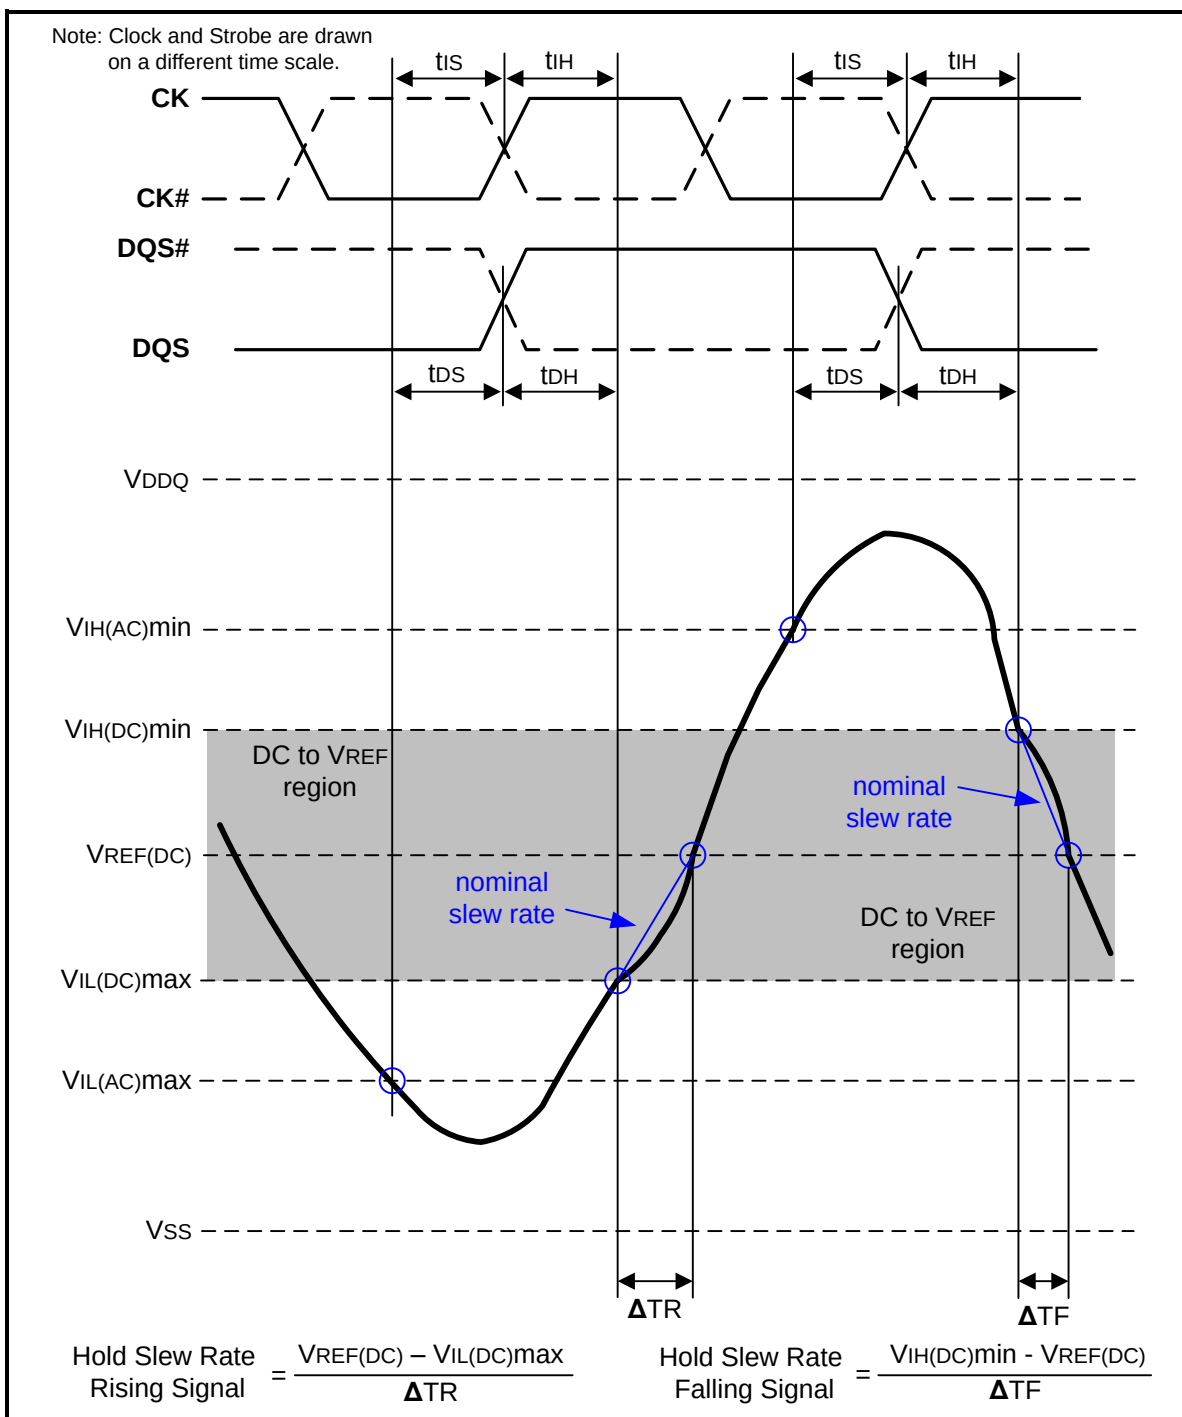
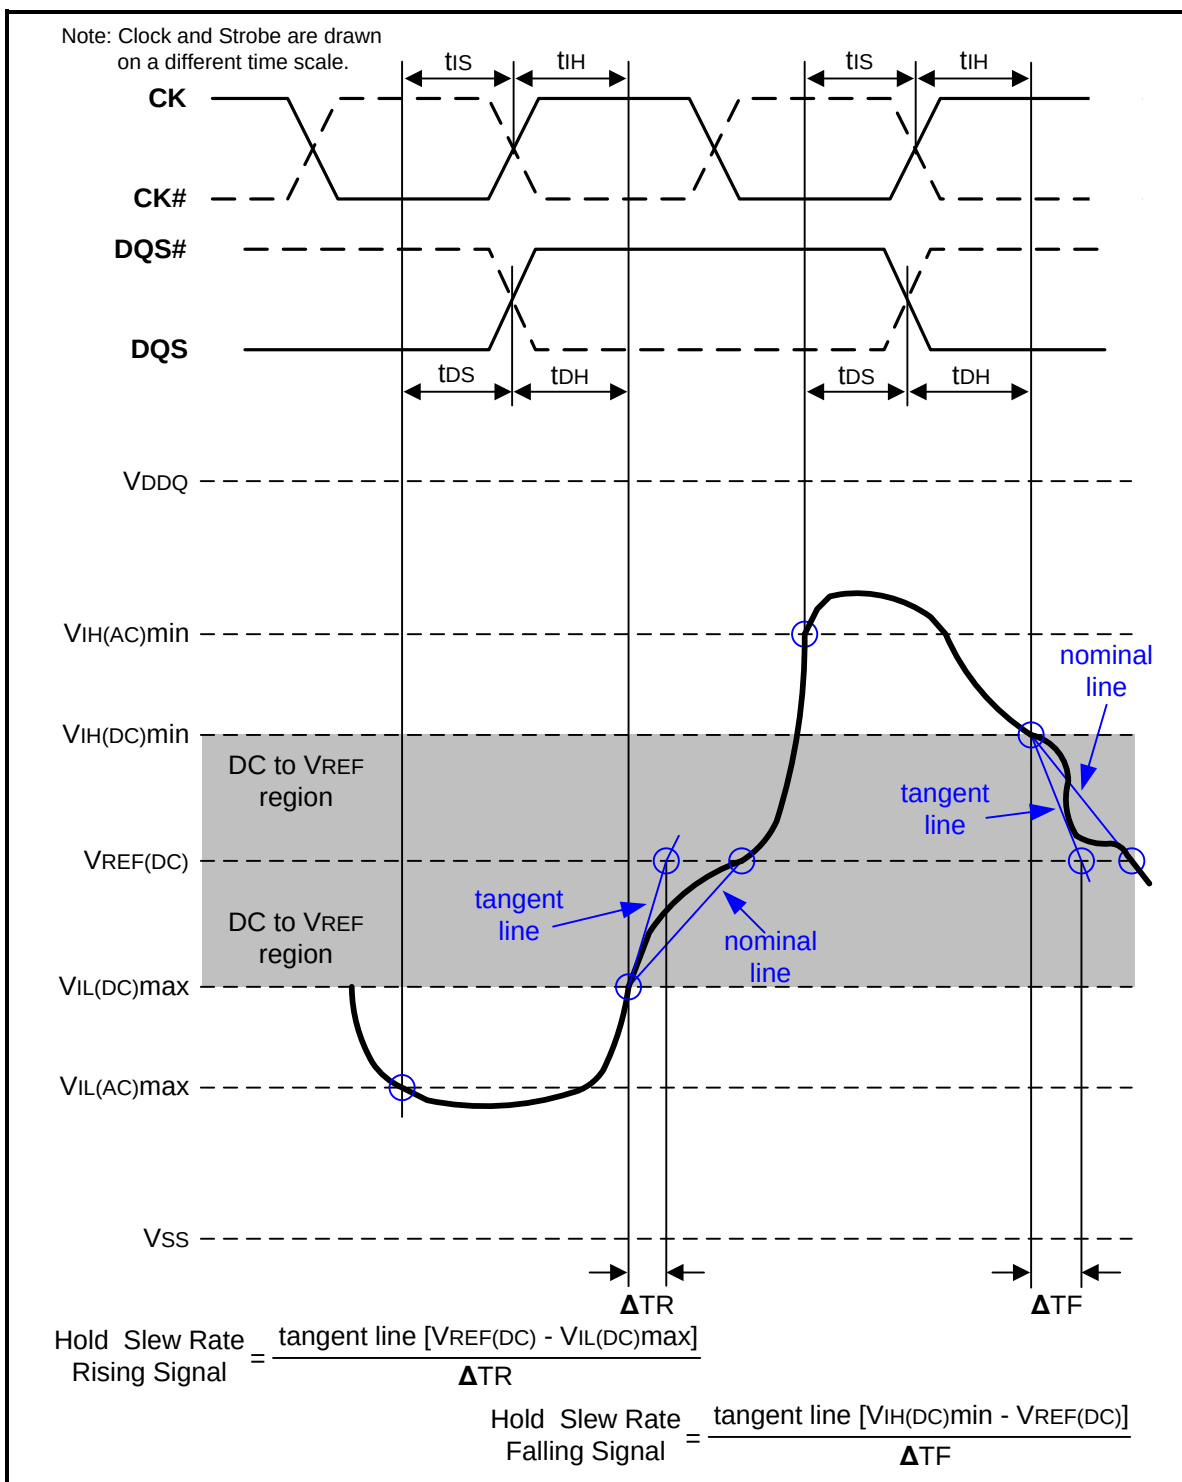

**Figure 108 – Illustration of nominal slew rate for hold time  $t_{DH}$  (for DQ with respect to strobe) and  $t_{IH}$  (for ADD/CMD with respect to clock)**
Figure 110 – Illustration of tangent line for hold time  $t_{DH}$  (for DQ with respect to strobe) and  $t_{IH}$  (for ADD/CMD with respect to clock)
Hold ( $t_{IH}$ ) nominal slew rate for a rising signal is defined as the slew rate between the last crossing of  $V_{IL}(\text{DC})_{\text{max}}$  and the first crossing of  $V_{REF}(\text{DC})$ . Hold ( $t_{IH}$ ) nominal slew rate for a falling signal is defined as the slew rate between the last crossing of  $V_{IH}(\text{DC})_{\text{min}}$  and the first crossing of  $V_{REF}(\text{DC})$ . If the actual signal is always later than the nominal slew rate line between shaded 'DC to VREF(DC) region', use nominal slew rate for derating value (see Figure 108). If the actual signal is earlier than the nominal slew rate line anywhere between shaded 'DC to VREF(DC) region', the slew rate of a tangent line to the actual signal from the DC level to  $V_{REF}(\text{DC})$  level is used for derating value (see Figure 110).
Hold (tDH) nominal slew rate for a rising signal is defined as the slew rate between the last crossing of VIL(DC)max and the first crossing of VREF(DC). Hold (tDH) nominal slew rate for a falling signal is defined as the slew rate between the last crossing of VIH(DC)min and the first crossing of VREF(DC) (see Figure 108). If the actual signal is always later than the nominal slew rate line between shaded 'DC level to VREF(DC) region', use nominal slew rate for derating value. If the actual signal is earlier than the nominal slew rate line anywhere between shaded 'DC to VREF(DC) region', the slew rate of a tangent line to the actual signal from the DC level to VREF(DC) level is used for derating value (see Figure 110).